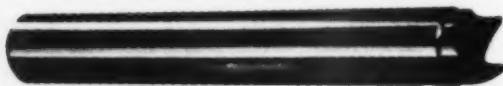

Fig. 4 Hollow mill removal tool
- The hollow mill removal tool, Figure 4, can accommodate a stud length of from 1 and 7/16 to 2 and 11/16". If the stud is longer, cut it off except for a stub protruding above the surface about 3/4". This will serve as a guide for the hollow mill.